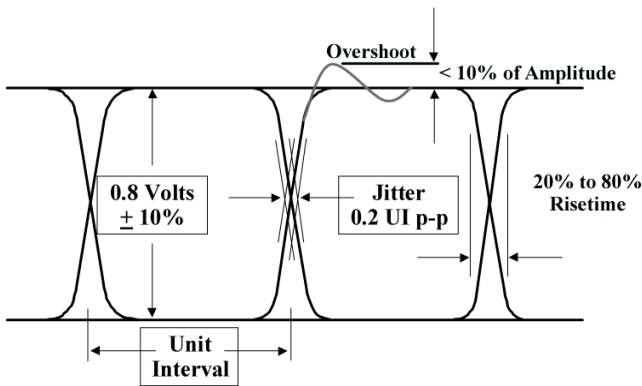
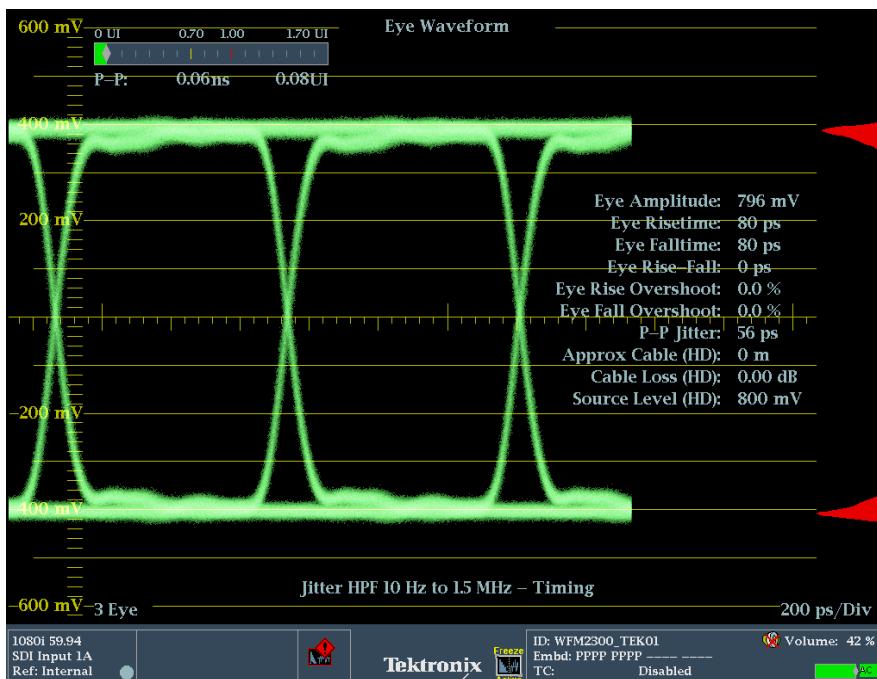

Figure 7a. Eye Launch Amplitude specifications.
Figure 7b. Generator output connected to SDI A.
The following displays can be used to identify common characteristics or problems with the SDI signal. SMPTE standards provide specification for the launch amplitude of an SDI signal output from the device Figure 7a. The test signal generator output of the WFM2300 was directly connected to the SDI A input and direct measurements were made of the physical layer parameters in Figure 7b.
- Jitter is represented in Unit Intervals (UI) where one unit interval is equal to the reciprocal of the clock frequency of the SDI signal as shown in Figure 7a.